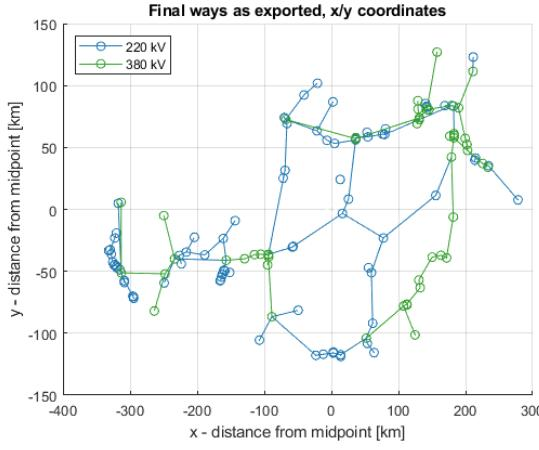

Figure 11: Plot displaying the result.
7. After a few seconds the MATLAB console displays 'COVERSION COMPLETED' and (if not turned off in the *Initialization and Settings* part of the code) the standard output figures pop up (see Figure 11 for an example).